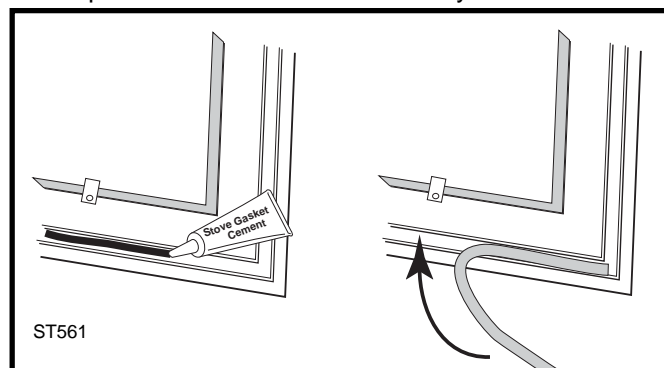

Fig. 24 Lay a bead of gasket cement then press gasket in place.
3. Apply a thin bead of stove cement in the newly-cleaned groove. (Fig. 24)